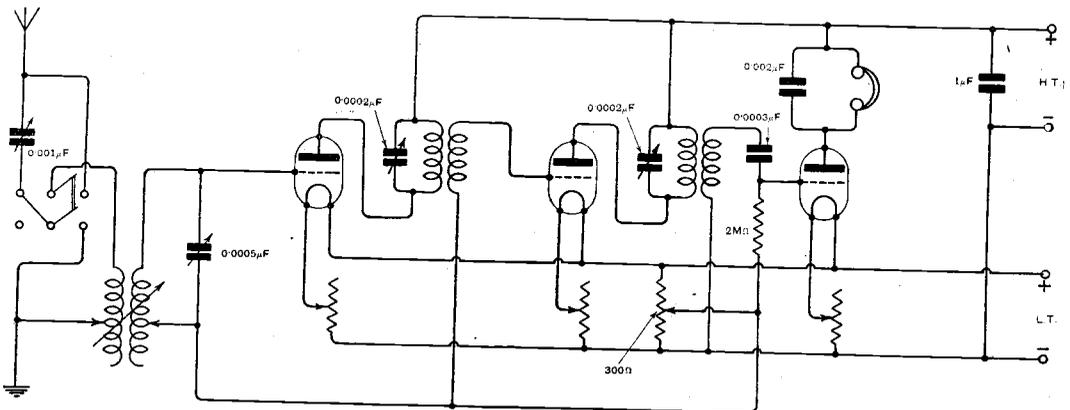

Fig. 2. "H.E." (Hammersmith). Three-valve receiver (2-v-0) with potentiometer grid control.
(1) The diagram is given in Fig. 2.